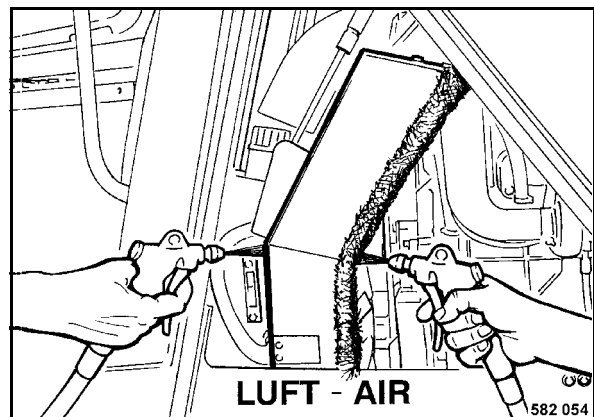

Fig. 65
- Blow the cooler (Fig. 65) out with compressed air.